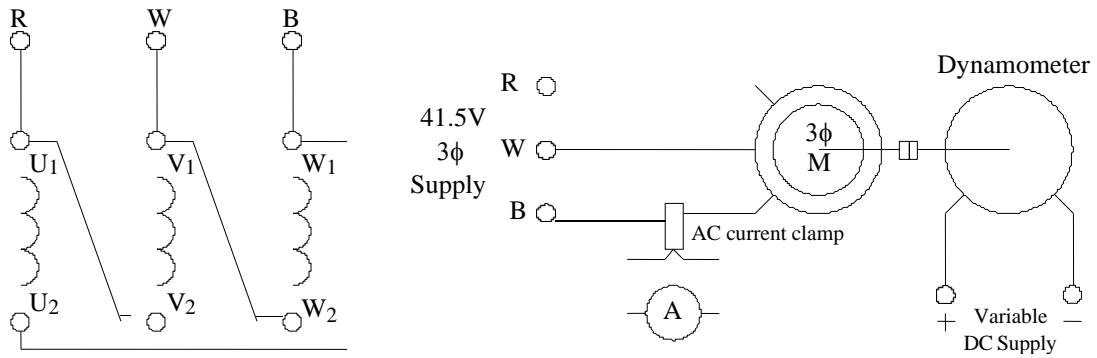

Figure 1
2. Connect the motor in delta as shown in figure 1 with the dynamometer attached.
2. Use the circuit connection shown in figure 1.